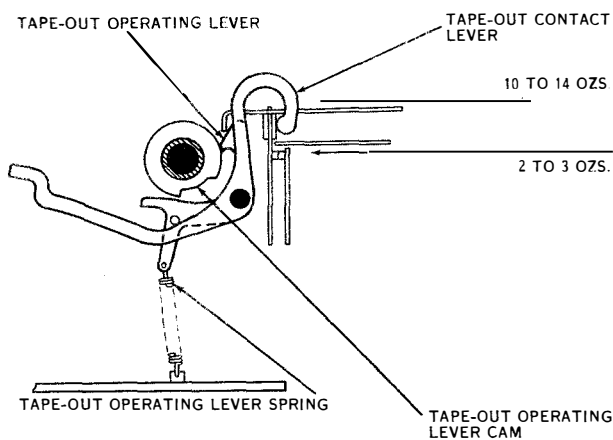

Figure 7-88. Tape-out Contact Operating Lever Spring Tension and Tape-out Contact Spring Pressure
(19) TAPE-OUT CONTACT SPRING PRESSURE. (See figure 7-88.)—When the transmitting cam sleeve is in its stopped position (clutch teeth disengaged) and the tape-out contact lever is in its unlatched position, a tension of two to three ounces should be required to open the contact points. To check, apply the push end of an eight-ounce scale to the contact spring just above the contact points. To adjust, bend the long contact spring; recheck the contact gap (see subparagraph (18) above).
(20) TAPE-OUT OPERATING LEVER SPRING TENSION. (See figure 7-88.)—When the transmitting cam sleeve is in its stopped position (clutch disengaged) and the tape-out operating lever is resting on the high